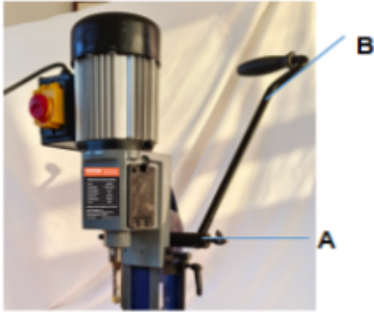

Fig. 2
1. Assemble hub of handle assembly (A) ,See Figure 2